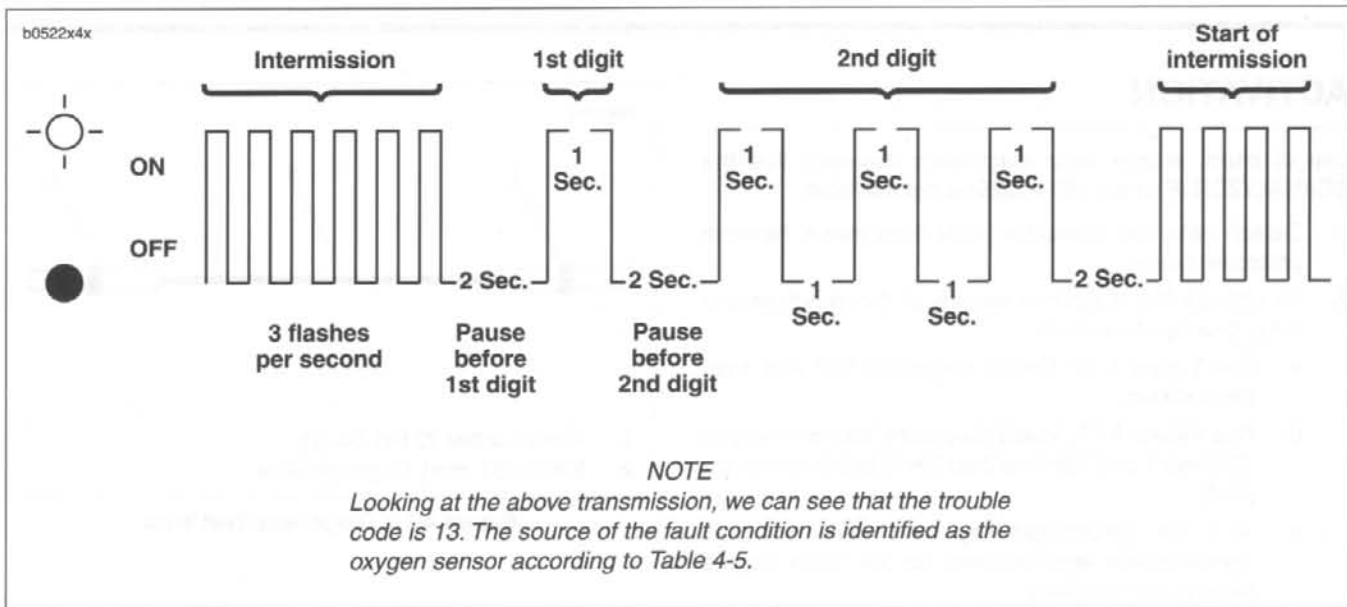

Figure 4-12. Check Engine Lamp Diagnostics
3. See Figure 4-12. All trouble codes are sent out as a series of flashes. To retrieve the first digit of the trouble code simply observe the number of times the lamp flashes.